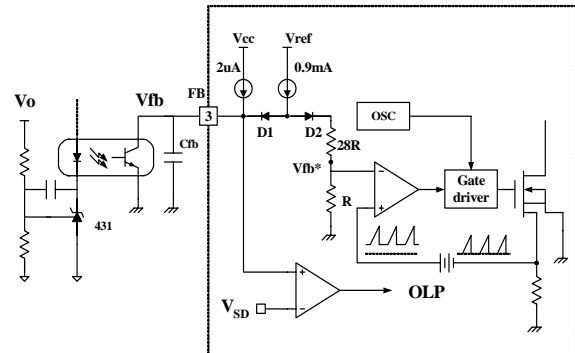

Figure 5. Pulse width modulation (PWM) circuit
**2. Feedback Control :** The FSDx0365RN employs current mode control, shown in figure 5. An opto-coupler (such as the H11A817A) and shunt regulator (such as the KA431) are typically used to implement the feedback network. Comparing the feedback voltage with the voltage across the Rsense resistor plus an offset voltage makes it possible to control the switching duty cycle. When the reference pin voltage of the KA431 exceeds the internal reference voltage of 2.5V, the H11A817A LED current increases, thus pulling down the feedback voltage and reducing the duty cycle. This event typically happens when the input voltage is increased or the output load is decreased.